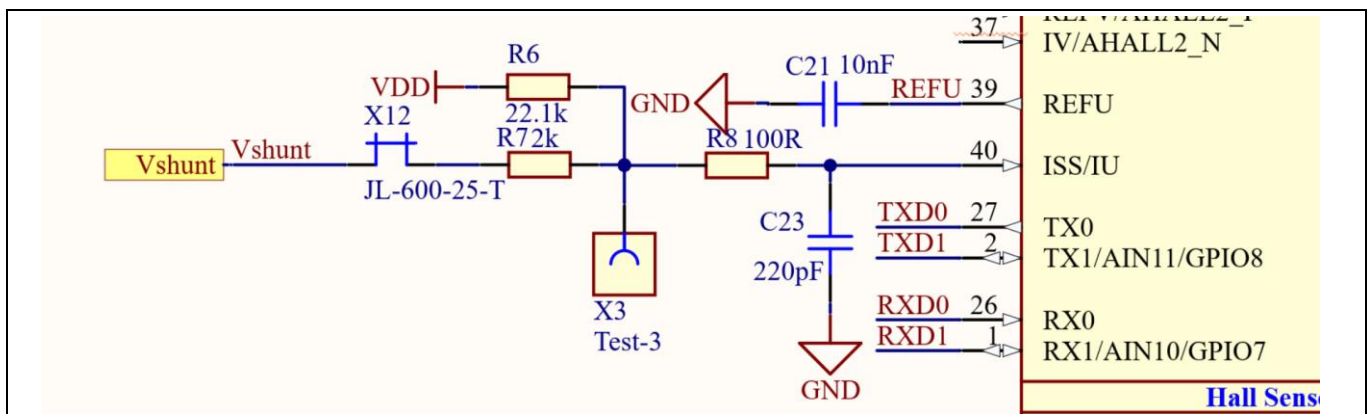

Figure 16 Current-sensing circuit on the board
As an example in Figure 16, this board has the following values: $R_1 = R_7 = 2 \text{ k}\Omega$, $R_2 = R_6 = 22.1 \text{ k}\Omega$, $V_{cc} = 5 \text{ V}$. By using the formula Eq. 5, the offset is 0.415 V, and the gain is $\frac{R_2}{R_1 + R_2} * R_{shunt} = 229.3 \text{ mV/A}$.
- R_8 and R_{20} in Figure 16 also determine ADC operational bias for current sensing, which corresponds to the motor regeneration operation range. For the applications that do not work with regenerative braking mode,